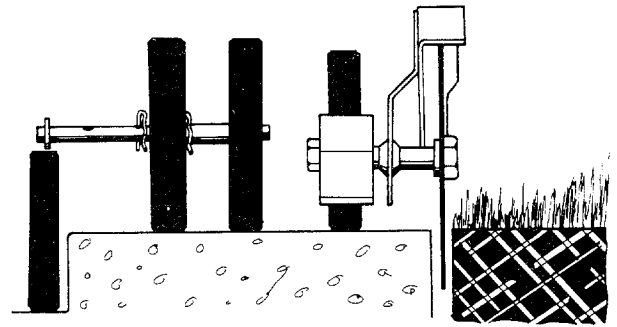
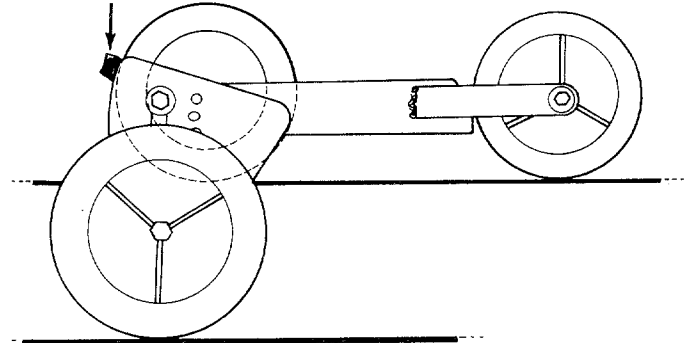

FIGURE 18
FIGURE 19
3. To edge along a curb, remove the hairpin clip from the left side of the front axle, slide the left wheel toward the right side of the unit and replace the hairpin clip. See figure 18. Lower the right rear wheel by moving the height adjustment lever toward the engine, pivoting the wheel to the desired depth and releasing the lever. See figure 19.